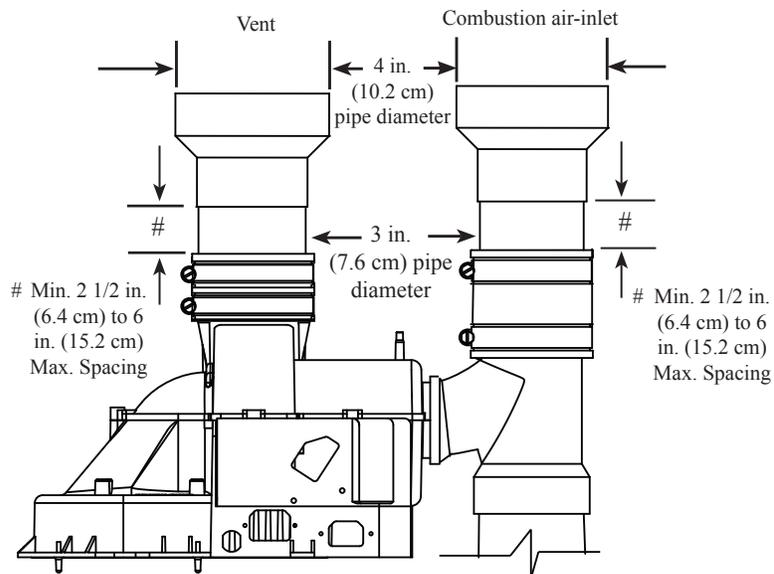

Figure 4
- Followed by a 3 in. (7.6 cm) to 4 in. (10.2 cm) diameter, ULC-S636 approved pipe increaser fitting (See Figure 4).
- Followed by a 3 in. (7.6 cm) to 4 in. (10.2 cm) diameter pipe increaser fitting (See Figure 4).